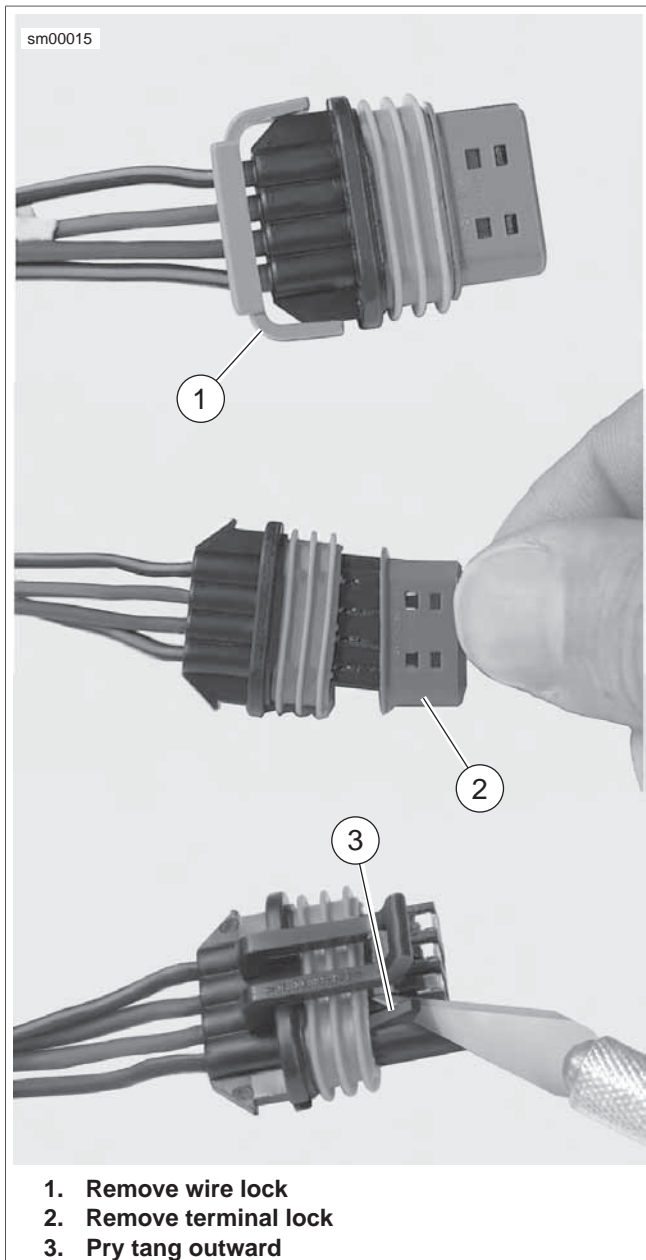

Figure A-9. Delphi Connector: Removing Socket Terminals
1. See Figure A-9. If present, free one side of wire lock (1) from ear on wire end of socket housing, then release the other side. Release wires from channels in wire lock and remove from socket housing.
2. Use a fingernail to pry colored terminal lock (2) loose and then remove from mating end of socket housing.
3. Using a thin flat blade, like the unsharpened edge of a hobby knife, gently pry tang (3) outward away from terminal, and then tug on wire to back terminal out wire end of chamber. Do not pull on wire until tang is released or terminal will be difficult to remove.